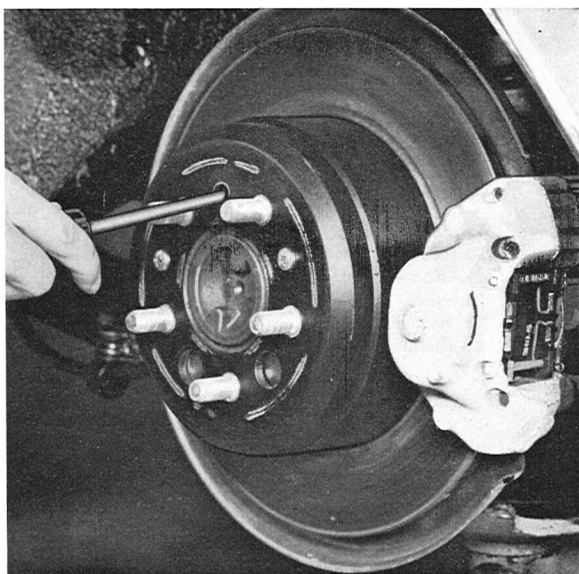

Fig. 5-77. Adjusting parking brake, rear wheel
4. Set the drum so that its hole coincides with the serrations on the adjusting screw and apply the shoes by moving the screwdriver handle upwards, see Fig. 5-77. When the drum cannot be
1. Adjust the brake shoes of the rear wheels. Check here that the brake pads do not stick to the brake disc and adjust the drum so that its hole coincides with the serrations of the adjusting screw. Place a screwdriver between the serrations of the adjusting screw and apply the shoes by moving the screwdriver handle upwards, see Fig. 5-77. When the drum can be turned easily, discontinue applying the shoes. Then turn the adjusting screw 4—5 serrations back.